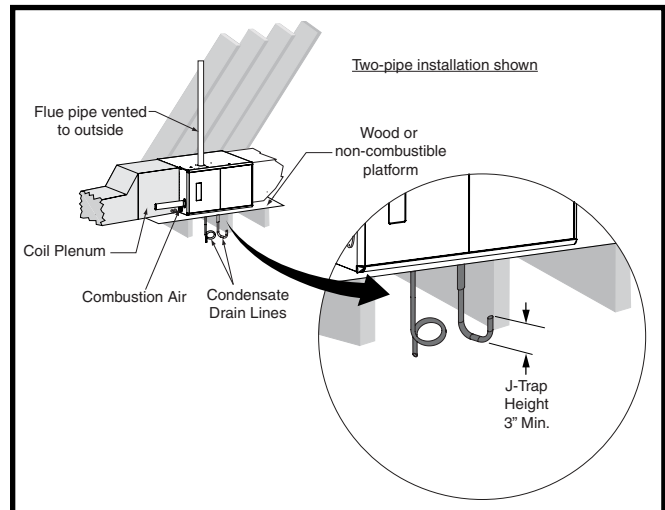
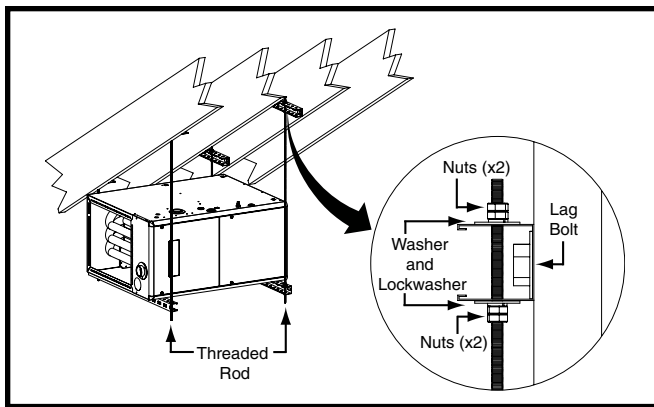

Figure 11. Horizontal installation on a Platform
Figure 12. Horizontally Suspended in an Attic
For Installations where there is limited clearance for the J-Trap (such as an attic where it may be installed between ceiling joists), either side of the J-Trap can be shortened to a minimum of 3 Inches. See Figure 11 (page 13).
*SD series gas furnaces can be installed horizontally (Figure 11) in an attic, basement, crawl space or alcove. It can also be suspended from a ceiling in a basement or utility room in either a right to left airflow or left to right airflow as shown in Figure 12 (page 14).
If installing the furnace with an evaporator coil (in an attic), it is required that a drip pan be placed under the furnace. If the installation is on a combustible platform as shown in Figure 11, it is recommended that the drip pan extend at least 12 inches past the top and front of the furnace.
If suspending the furnace from the ceiling, assemble a support frame (Figure 12) using slotted iron channel and full threaded rod. Fasten the frame together with nuts, washers, and lockwashers. Secure the support frame to the rafters with lag bolts. The furnace can also be suspended using steel straps around each end of the furnace. The straps should be attached to the furnace with sheet metal screws and to the rafters with bolts.